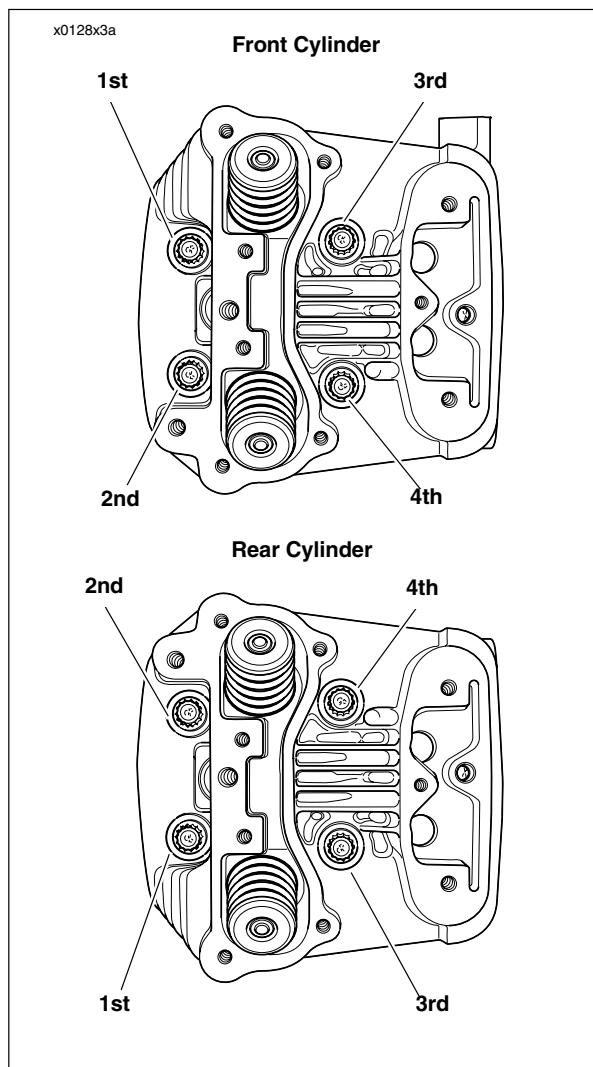

Figure 3-59. Head Screw Loosening/Tightening Sequence
See Figure 3-59. Distortion to the head, cylinder and crank-case studs may result if head screws are not loosened (or tightened) gradually in the sequence shown.
1. See Figure 3-59. Loosen each head screw 1/8-turn following the sequence shown.